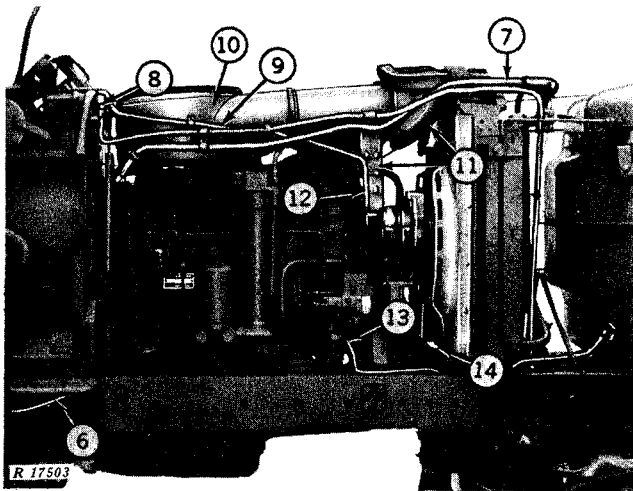

Fig. 22-Right-Hand Side of Tractor
1. Remove muffler. Remove water pump bypass pipe (Fig. 22) and intercooler outlet pipe to permit installation of JDE-63 engine lifting brackets.
6. Disconnect hydraulic pump oil seal drain tube (Fig. 22).